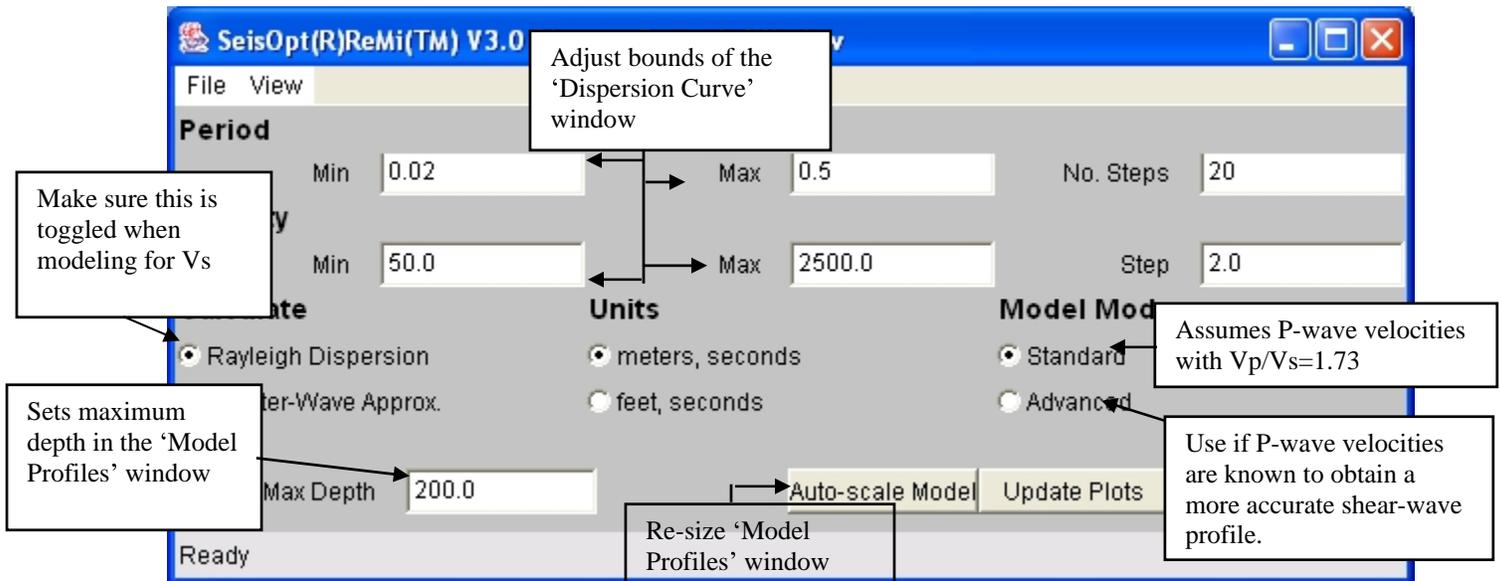
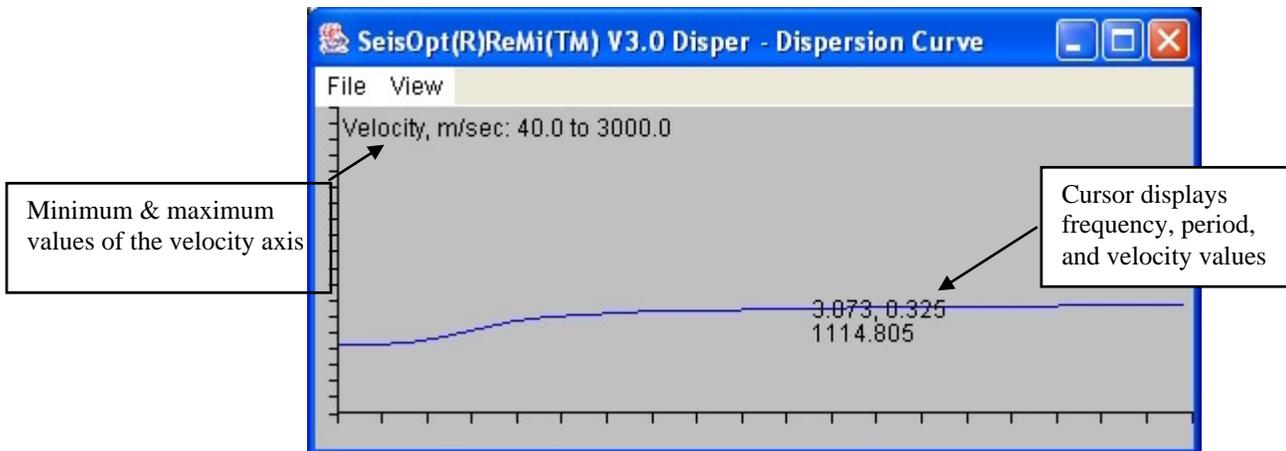

Figure 47: Set parameters for interactive velocity modeling and dispersion curve plotting.
Figure 48: Dispersion Curve window of the ReMi Disper module. This window displays the modeled and picked dispersion values.
SeisOpt ReMi Disper uses an iterative dispersion-modeling algorithm based on the method described by Saito (1979) to model the dispersion picks made using ReMi Vspect module. Double-click on the ReMiDisper desktop icon (Figure 2b) to start the Disper module. The module consists of three separate windows shown in Figures 47, 48, and 49. The objective is to model the picked dispersion curve (red filled squares in Figure 48) by clicking and dragging the shear-wave velocity profiles (red lines in Figure 49) so that the calculated dispersion curve (blue lines in Figure 48) matches the picks (red squares). The control window (Figure 47) can be used to toggle between different units (meters/second or feet/second), control the depth of the model, and magnify the image to better view and model the variations in the dispersion curve.
This will open up at the top left-hand corner of the screen (Figure 47). It contains functions that control the plot parameters of the other two windows, read / write functionality, and parameters that control the convergence and sampling criteria of the modeling algorithm. The following is a description of the parameters:
- Min: Minimum period, in seconds, of the dispersion curve being modeled. This will control the horizontal axis in the ‘Dispersion Curve’ window (Figure 48).
- Max: Maximum period, in seconds, of the dispersion curve being modeled. This will control the extent of horizontal axis in the ‘Dispersion Curve’ window (Figure 48).
- No. Steps: This controls the number of steps in the calculated period. That is more the number of steps, smoother is the calculated dispersion curve (blue line) shown in ‘Dispersion Curve’ window (Figure 48). The default value is 20, and usually this is sufficient for modeling picks made from a typical p-f image. But, if the user wishes to model slight variations, one could increase it to 100. Be aware that increasing the number of steps will increase the time to render each new dispersion curve. It is best to increase the number of steps after the dispersion curve has been fit and before the calculated dispersion curve is written out to disk (see Section 4.4).
- Min: Minimum velocity of the model and dispersion curve. This will control the vertical axis of the ‘Dispersion Curve’ window (Figure 48). Also, make sure this value is less than the minimum velocity used while performing the interactive velocity modeling in the ‘Model Profiles’ window (Figure 49). Else, a ‘root not found’ error will occur. The values are either in meters/second or feet/seconds, depending on the choice made by the user.
This window will open up below the ‘Controls’ window. When first opened, this will have a blue line showing the modeled dispersion curve (Figure 48).
Unlike the p-f image (Figure 34), the horizontal axis in this plot is the period (inverse of the frequency) in seconds and the vertical axis is phase-velocity, in meters/second or feet/second, depending on the units chosen in the ‘Controls’ window (see Section 4.1.1). The minimum velocity and minimum period (maximum frequency) are at the left lower corner of the plot. Velocities and period increase linearly in the vertical and horizontal direction, respectively. The maximum and minimum values of the period, frequency, and velocity are displayed on the screen. Changing the limits in the ‘Control’ window (Figure 47, Section 4.1.1) can change these values. Moving the cursor anywhere in the window will display the frequency, period, and velocity values. When the picked dispersion values are imported into the ReMi Disper module, they will be displayed as filled red
- Vertical red lines: These are the shear-wave velocities for each layer. The value is either in meters/second or feet/second and is set in the ‘Controls’ window (Section 4.1.1). One can manipulate the velocity model by clicking on the line with the left mouse button and dragging the mouse over the plot with the left button held down. Each segment of the red line, indicating velocity of a particular layer, can be move independent of the other. As the velocity profile is being changed, the synthetic (calculated) dispersion curve (blue line in Figure 48) in the